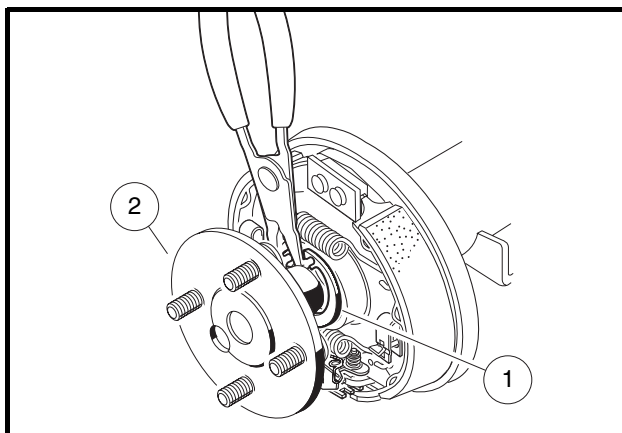
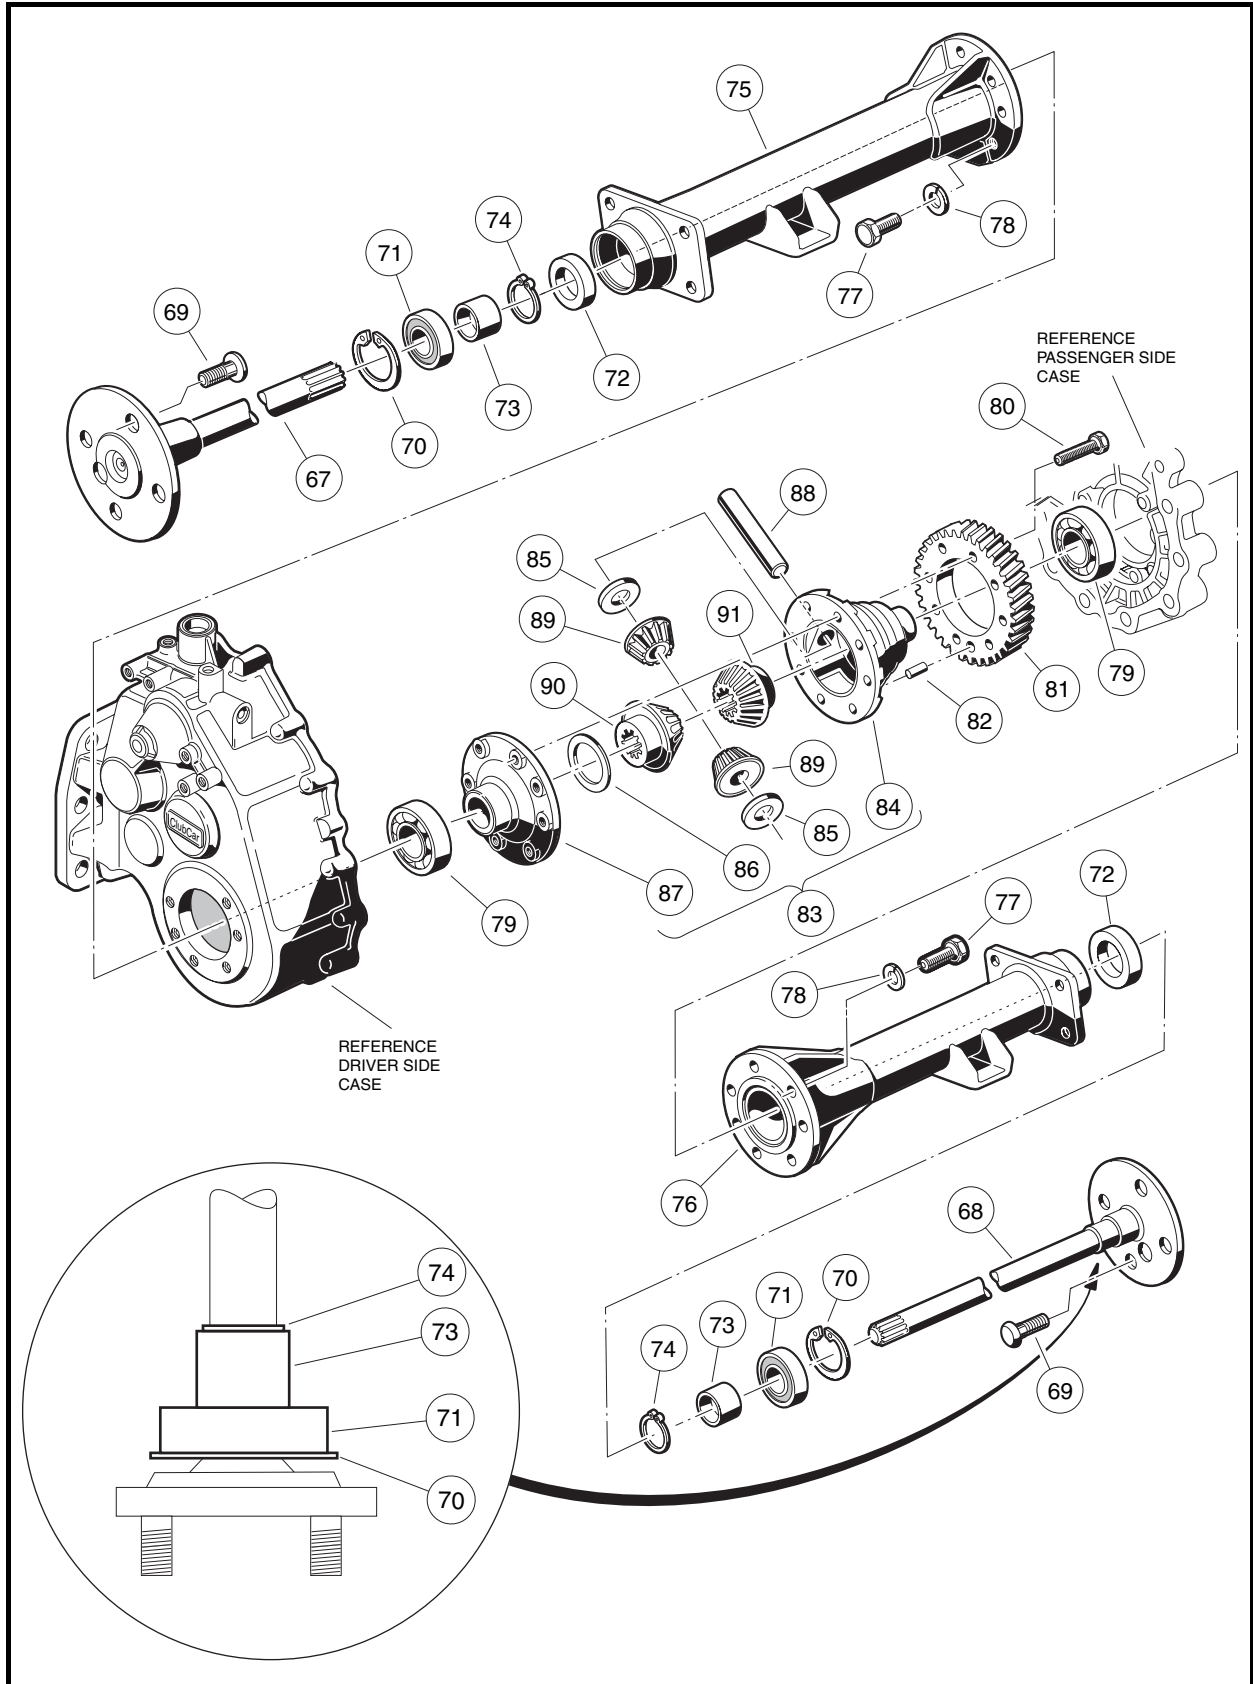
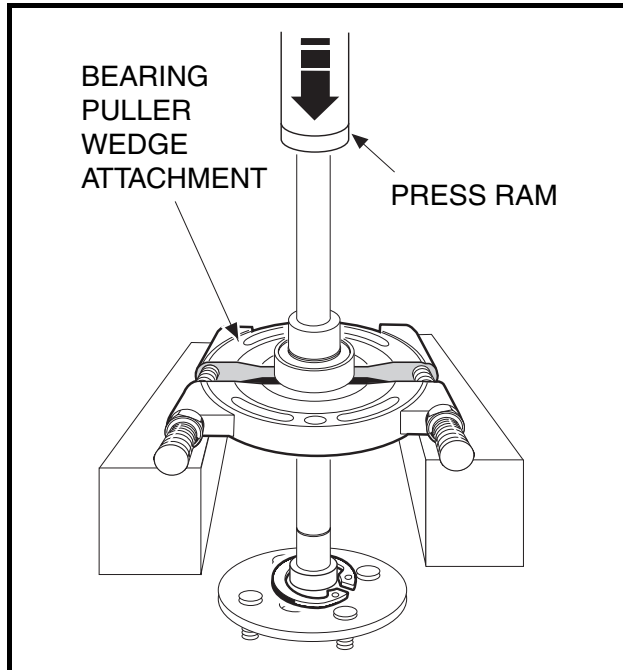
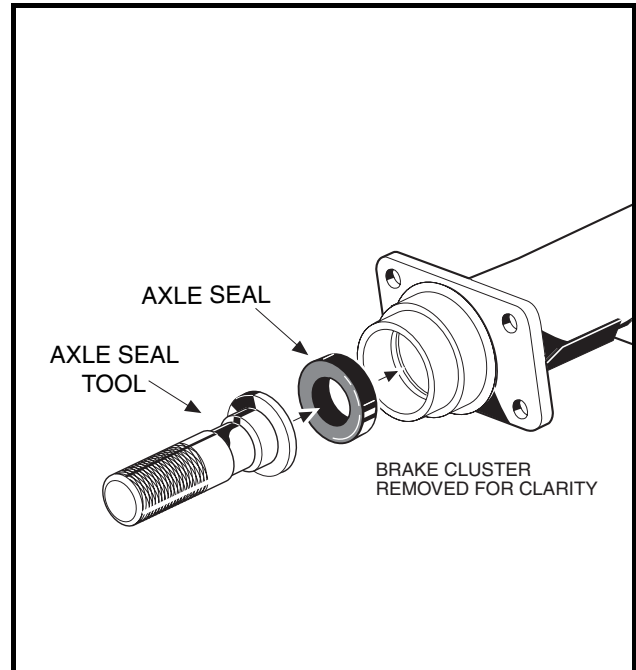

Figure 16-3 Retaining Ring
Figure 16-6 Differential Gear Case/Axle Tubes
Figure 16-7 Bearing and Collar
Figure 16-8 Axle Seal Tool
6. Use 90° internal snap ring pliers (0.090 tip) to remove internal retaining ring (1) from axle tube (**Figure 16-3, Page 16-3**).
7. Carefully pull the axle shaft (2) straight out of the axle tube (Figure 16-3, Page 16-3).
9. Inspect the axle shaft assembly to be sure the bearing (71) and collar (73) have not slipped and are still seated against the shoulder on the axle shaft (Figure 16-6, Page 16-5).
1. Use external retaining ring pliers (0.047-inch tip) to remove the retaining ring (74). Place a bearing puller wedge attachment (CCI P/N 1012812) on the axle shaft between the wheel mounting flange and the bearing (Figure 16-6, Page 16-5). See also Figure 16-7, Page 16-7. See following CAUTION.
2. Press the bearing (71) and collar (73) off together (Figure 16-6, Page 16-5). See also Figure 16-7, Page 16-7. See following NOTE.
Do not remove the large axle retaining ring (70) from the axle (Figure 16-6, Page 16-5). Since the inner diameter of the retaining ring (70) is smaller than the outer diameter of the bearing (71), the ring must be in place on the axle before a new bearing and collar are pressed on.
1. Ensure that the retaining ring (70) is loosely placed on the axle shaft. **See preceding NOTE.**
2. Install a new axle bearing (71) on axle (67 or 68). Push bearing onto axle until bearing is flush against axle shoulder (**Figure 16-6, Page 16-5**).
4. Place a new sealed bearing (71) on shaft (67 or 68) (**Figure 16-6, Page 16-5**).
5. Install collar (73) onto axle shaft. Place axle assembly on bearing puller wedge attachment and press collar onto axle.
7. Use external snap ring pliers (0.047-inch tip) to install collar retaining ring (74) (**Figure 16-6, Page 16-5**).
1. Clean bearing and seal seats in axle tube (75 or 76) (**Figure 16-6, Page 16-5**).
2. Place a new oil seal (72) in axle tube with seal lip facing inside of the axle tube (**Figure 16-6, Page 16-5**). Use an axle seal tool (CCI P/N 1014162) to press it in until it seats firmly in position (**Figure 16-8, Page 16-7**). **See following NOTE.**
4. Install the bearing retaining ring (70) in the axle tube (**Figure 16-6, Page 16-5**). **See also Figure 16-3, Page 16-3.**